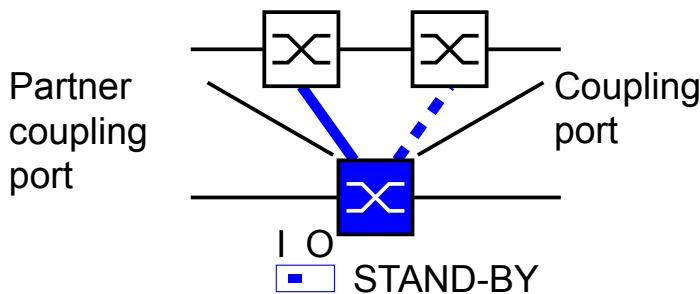

Figure 8: One-Switch coupling
- Select one-Switch coupling (see fig. 8).